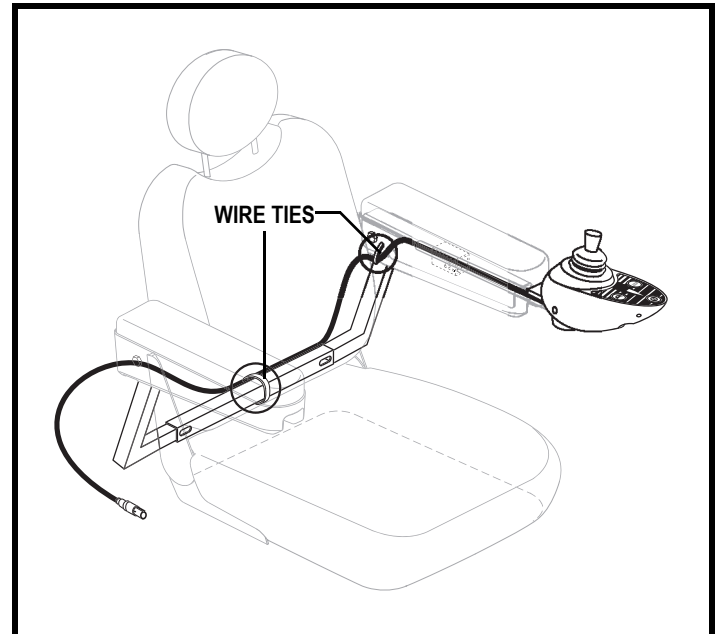

Figure 13. Controller Harness Routing on a Contour Seat
8. Secure the controller harness to the armrest receiver with wire ties. See figure 13.